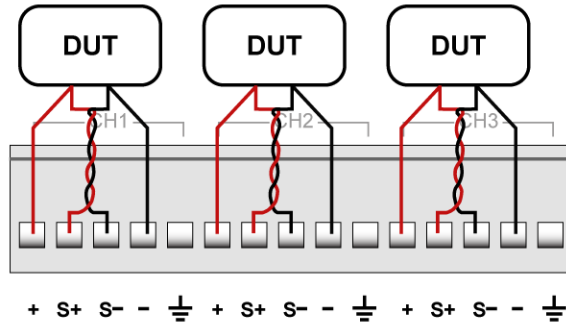

Figure 17 - Remote sense connections
1. Connect wires to the DUT as illustrated in Figure 17 - Remote sense connections. Make the connections between + and S+ and S- and - for each channel that will be using remote sense. The S+ and S- wires should be twisted as illustrated to minimize noise.
3. Double check that the connections matches to Figure 17 - Remote sense connections.